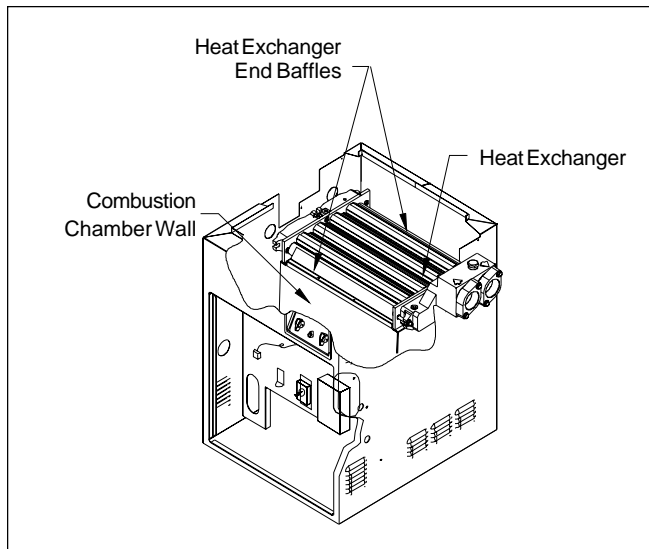

Figure 16. Heat exchanger and end baffles.
12. When removing the heat exchanger from the heater, the end baffles of the heat exchanger must be removed. There are two baffles covering part of the front and rear tubes of the heat exchanger. Each baffle is held in place by two screws which mount to the top of the combustion chamber wall. Remove the screws and the baffles before attempting to lift the heat exchanger out of the heater (see Figure 16).